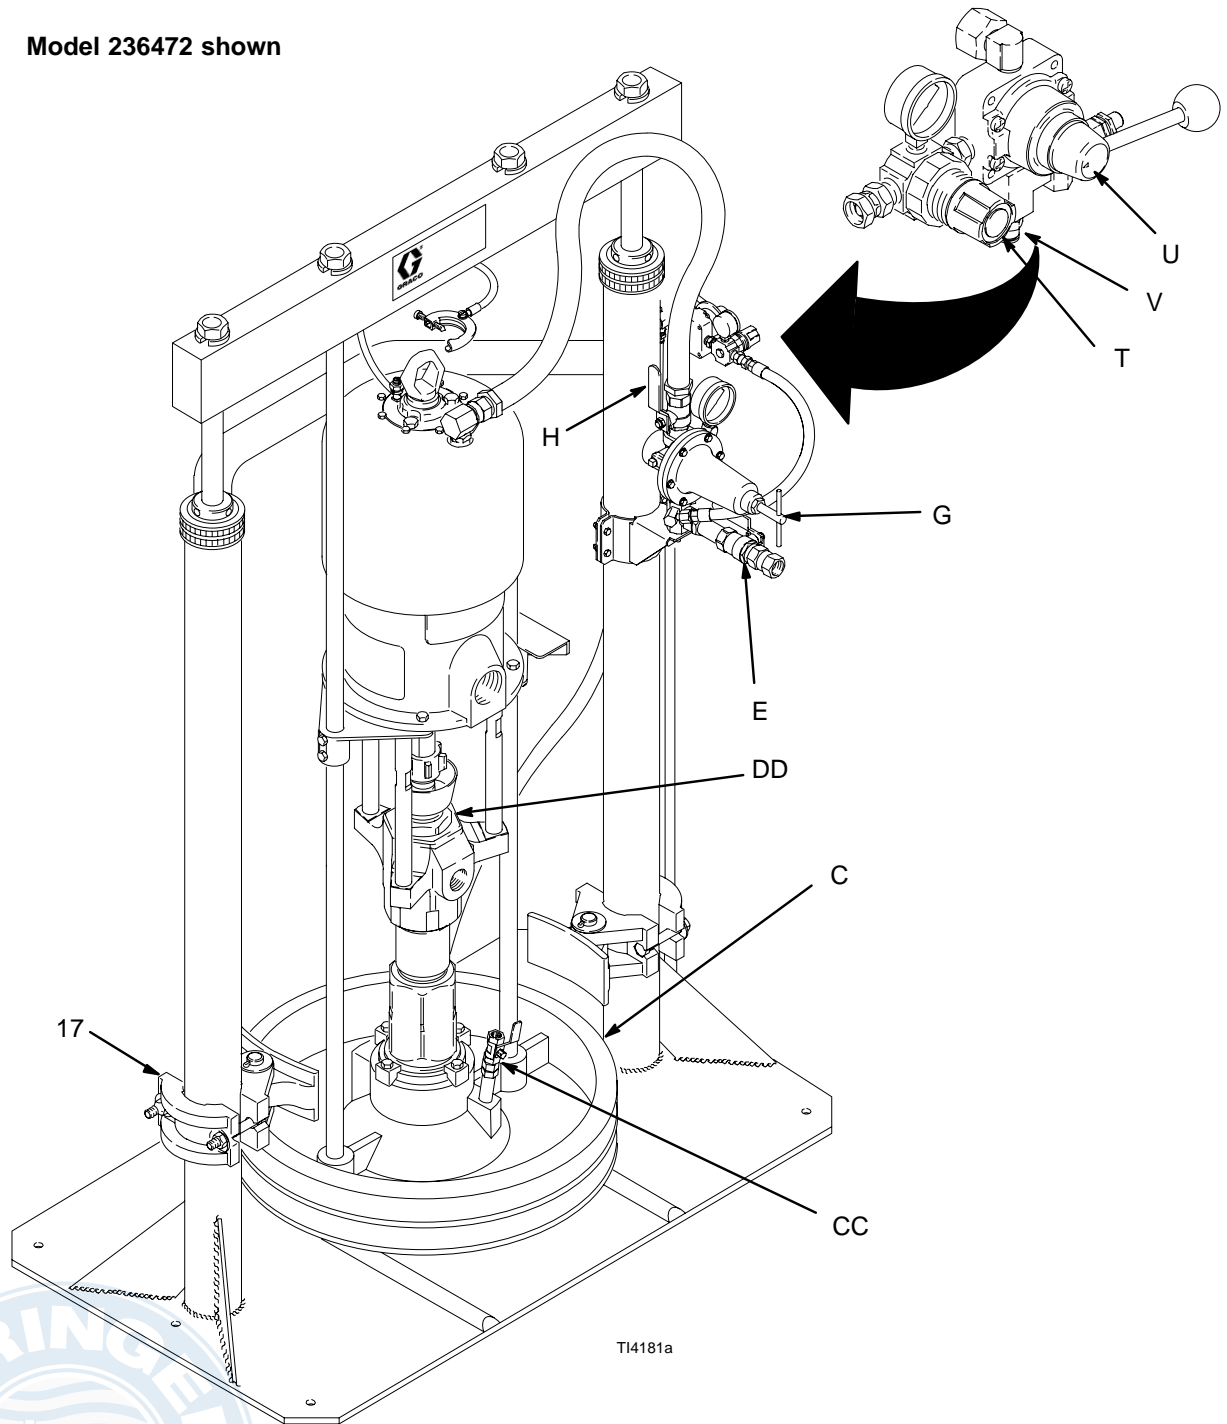

Fig. 7
1. See Fig. 7. Close all air regulators and air valves.
2. Open the main air bleed valve (E), and set the ram air regulator (T) to 2.8 bar, 0.26 MPa (40 psi). Pull up on the director valve (U) handle so the arrow points to UP, and let the ram raise to its full height.
3. Set a full drum of fluid on the ram base, slide it back against the tube stop, and center it under the ram plate (C). Use the drum clamps (17) to center, hold, and properly align the drum with the ram.
1. Be sure the pump air regulator (G) is closed. Set the ram air regulator (T) to about 3.5 bar, 0.35 MPa (50 psi). Set the director valve (U) to DOWN. See Fig. 7.
3. Keep the director valve (U) set to DOWN while the pump is operating.
4. Set director valve (U) to UP to raise wiper plate. At the same time, carefully equalize pressure in drum by operating air release valve.